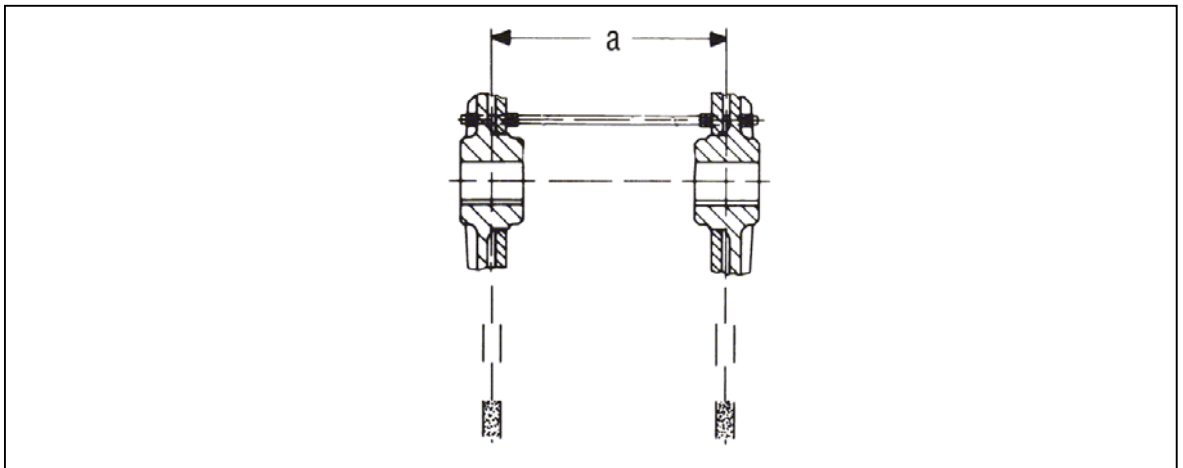

Fig. 2
2. Mount the wheels with a separation of distance "a" with 2 spacing screws (fig. 2).